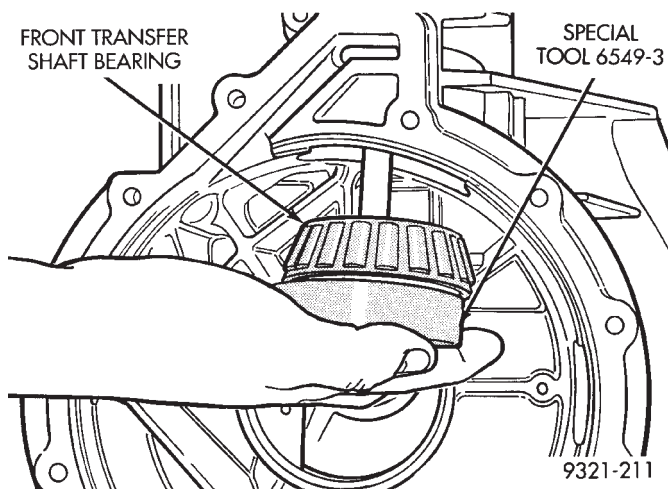

Fig. 253 Installing Gauge Disc with Front Transfer Shaft Bearing
(4) Install gauge disc and bearing into case using gauge disc rod (Fig. 253).